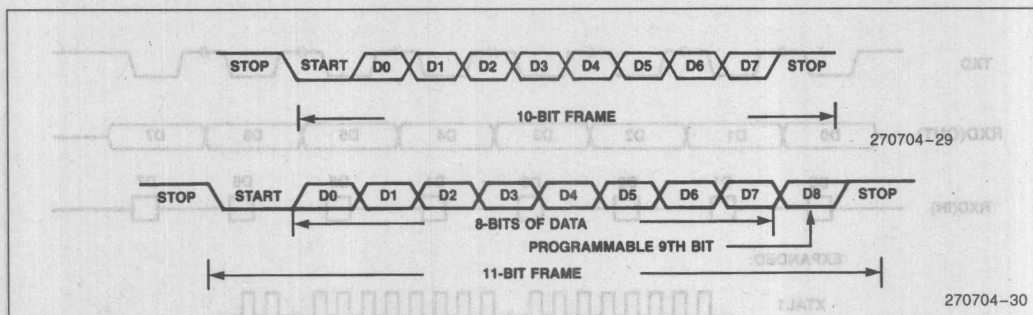

Figure 11-4. Mode 1, 2, and 3 Timing
Mode 1 is the standard asynchronous communications mode. The data frame used in this mode is shown in Figure 11-4. It consists of 10 bits; a start bit (0), 8 data bits (LSB first), and a stop bit (1). If parity is enabled by setting SPCON.2, an even parity bit is sent instead of the 8th data bit and parity is checked on reception.
Mode 2 is the asynchronous 9th bit recognition mode. This mode is commonly used with Mode 3 for multiprocessor communications. Figure 11-4 shows the data frame used in this mode. It consists of a start bit (0), 9 data bits (LSB first), and a stop bit (1). When transmitting, the 9th bit can be set to a one by setting the TB8 bit in the control register before writing to SBUF (TX). The TB8 bit is cleared on every transmission. During reception, the serial port interrupt and the Receive Interrupt will not happen unless the 9th bit being received is set. This provides an easy way to have selective reception on a data link. Parity cannot be enabled in this mode.